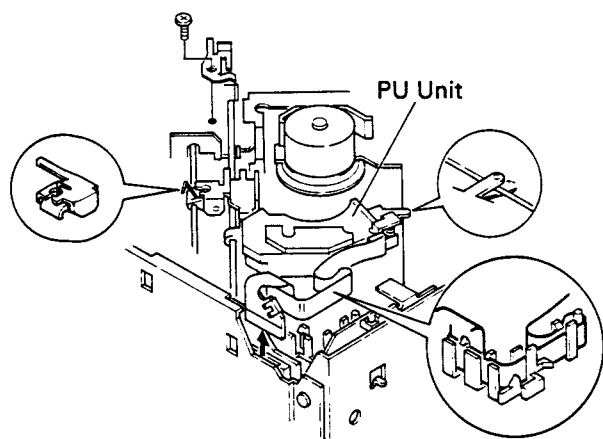

Fig. 2
1. Disconnect the connector and detach the P.C. Board. (Fig. 2)
2. Raise the spring and hook it over the projection. (Fig. 2)
3. Remove the screw and detach the spring. (Fig. 2)
4. Remove the PU unit. (Fig. 2)
Note: When assembling the PU unit, place the PU unit as shown. (Fig. 2)